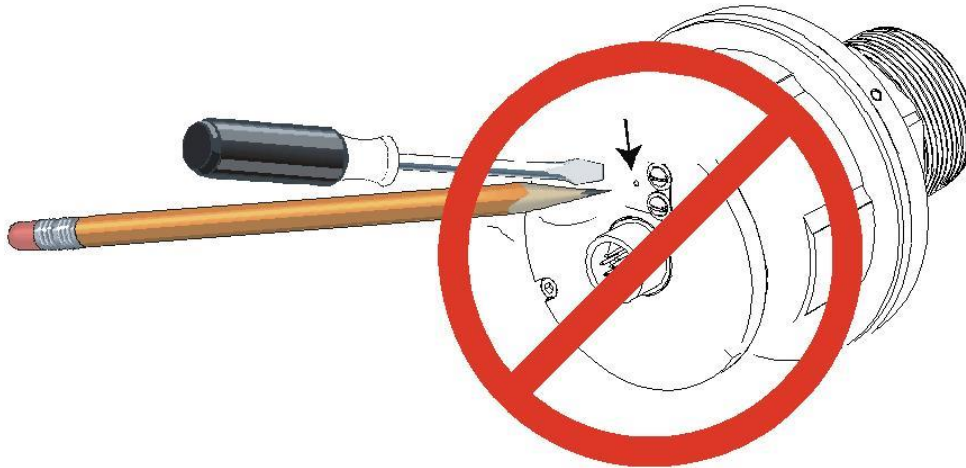

Figure 2-3: Do Not Block the Sensor's Breathing Hole or Puncture the Breathing Hole's Membrane
3. Do not block the sensor's breathing hole or puncture the breathing hole's membrane (see Figure 2-3). Located above the sensor's connector, this opening provides oxygen to the gas detector (inside the sensor). Blocking this opening or puncturing its membrane damages the sensor permanently, thus voiding the warranty